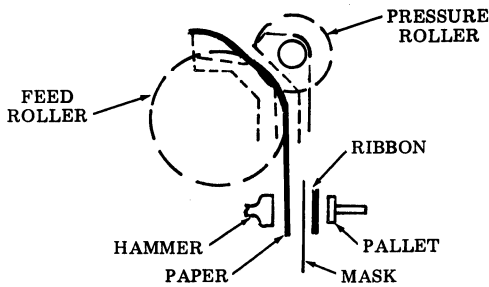

Fig. 54—Friction Feed Printer Equipped With Noise-Reduction Parts
9.07 With printer raised and paper access chute opened, feed paper up by hand behind the mask and between the feed roller and pressure roller, making sure point of paper does not enter opening mask (Fig. 54). (The mask is a plastic piece mounted between the ribbon and the feed roller. An opening in the mask allows for the ribbon to contact the paper during printing.)